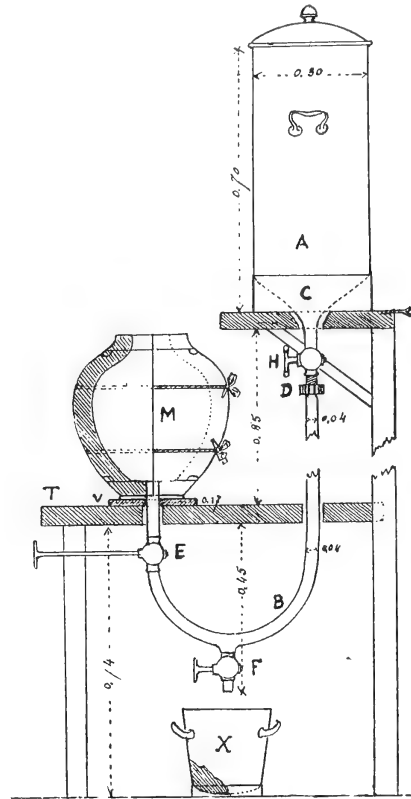
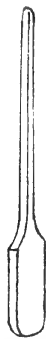

Fig 16
fig 18
which is not very complex (fig. 16) and consists of a tank A and a lead pipe B. The tank is in zinc, of cylindrical shape and with vertical axis. It is 27 x 12 inches. It is placed about 5 feet above ground, solidly fixed to the wall or resting on a table. The cylindrical shape makes easier the stirring of the liquid with a spatula in shape of an oar (fig. 18), which is moved from left to right. The bottom of the tank is in funnel shape (C) to make possible the thorough emptying of the slip, and it ends with a brass union (D), which connects it with the pipe. This pipe, which is 52 inches long by $\frac{3}{4}$ inch inside, is curved in its lower part and supplied with three copper faucets. The top one (H) enables the slip to flow into the pipe, the one at the other end (E) allows it to enter the mould, while the faucet in (F) is used to empty the apparatus.